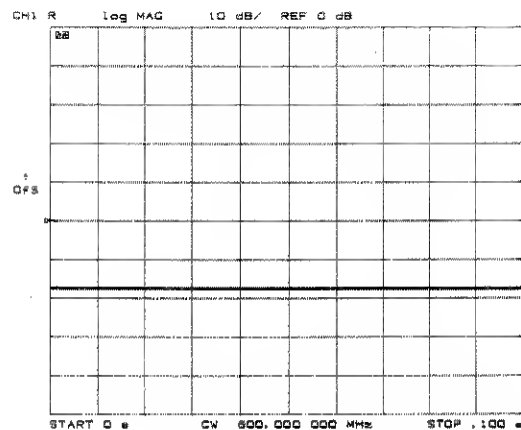

Figure 14-6. Mixer Output
6. Figure 14-6 shows the attenuated output power of the mixer's IF at the receiver. The conversion loss of the mixer is found by subtracting the attenuation from the total loss between the RF source and IF receiver.